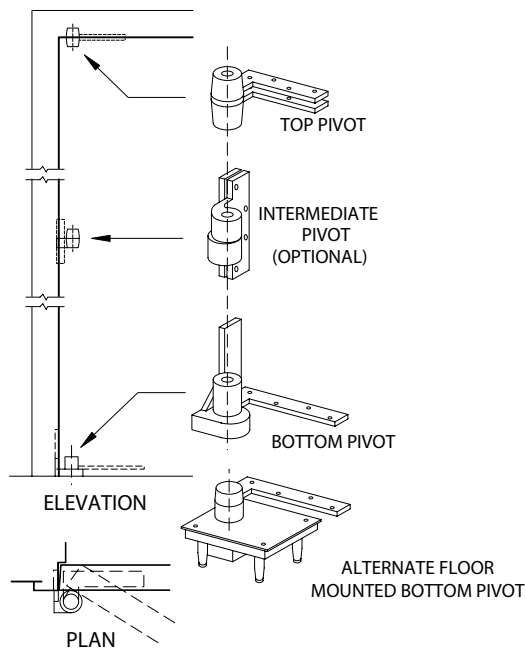

FIGURE 6a
1. The Offset Pivot, Figure 6a, is only used on single-acting doors. Need for the intermediate pivot depends upon the size, weight, and usage of the door. Recommendation of hardware manufacturer should be followed. Pivot knuckles are visible when door is closed.